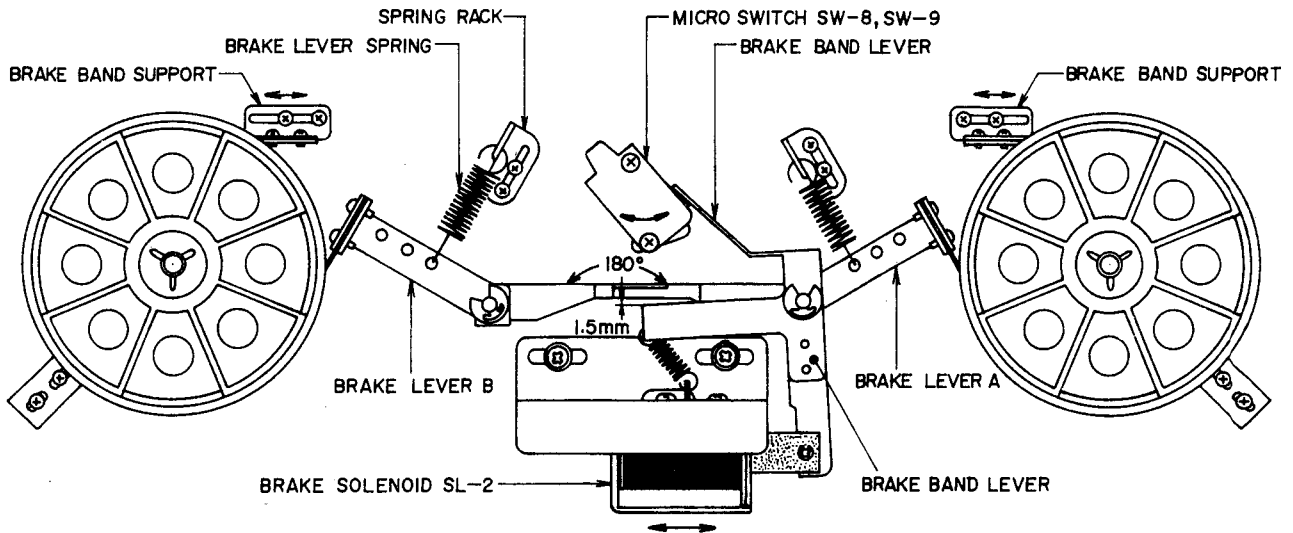

Fig. 1
1. POSITION ADJUSTMENT OF BRAKE SOLENOID SL-2 (Refer to Figs. 1, 2)
2. BRAKE TENSION ADJUSTMENT (Refer to Figs. 1, 2)